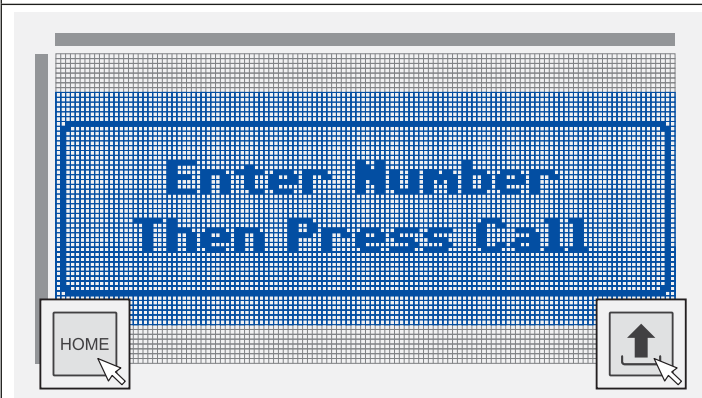

Fig. 93
7. Click on the home screen icon to switch back to the default home (welcome) screen and then click on the upload to panel icon, as shown in **Fig.93**. This image/logo will be uploaded back into the panel (including any edits made to it from step 4).
After uploading the logo back into the **Digital GSM** panel when the **Digital GSM** intercom is in standby and the display switch time has been set (see **Fig.43** and refer to notes on how to set up the display switch time page 25) it will initially show the logo from **Fig.93** as the new default home (welcome) screen on the main graphical display.